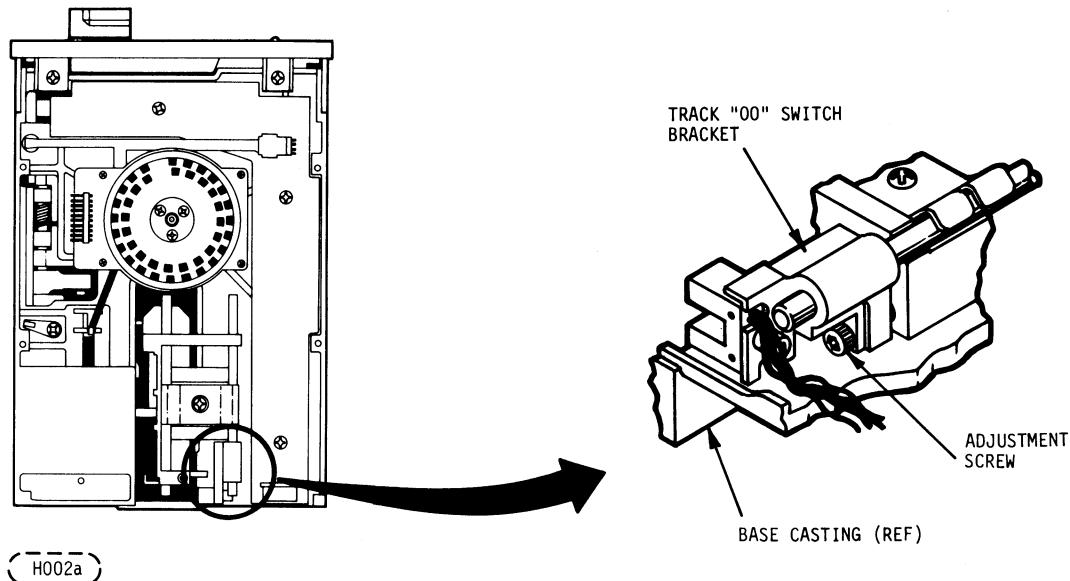

FIGURE 6-7. TRACK '00' ADJUSTMENT
- b. To adjust, using an Allen wrench, turn the screw (Figure 6-7) that slides the switch bracket to achieve the correct duty cycle.